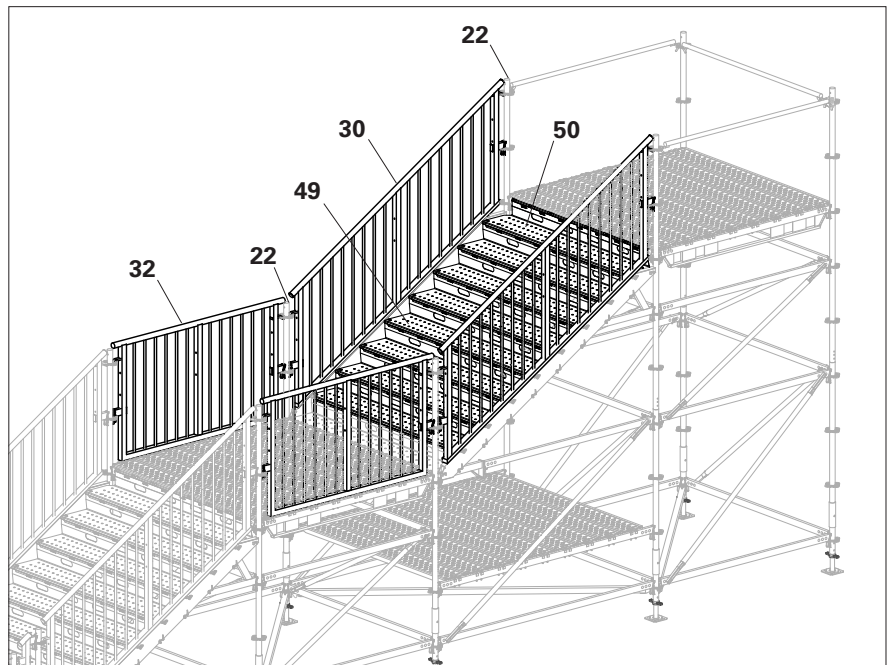

Fig. C1.15
4. Fit Plastic Caps Ø48.3mm grey (**22**) to the tube ends. (Fig. C1.15)